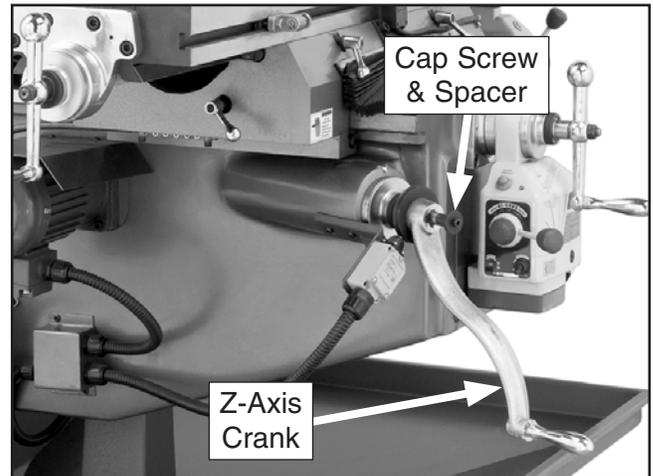

Figure 10. Z-axis crank installed.
3. Remove cap screw and spacer from Z-axis leadscrew end, slide crank onto shaft as shown in **Figure 10**, then re-install cap screw and spacer.